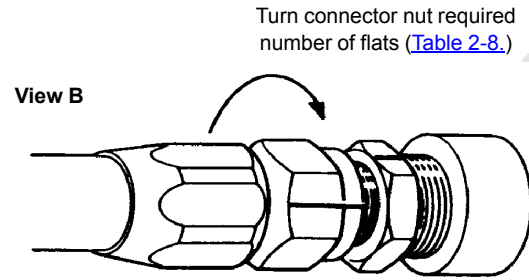

FIGURE 2-7
2. Mark a line (use felt pen or marker) on adapter and extend it onto connector nut (Figure 2-7, View A).
3. Using wrenches, tighten connector nut the number of flats shown in Table 2-8. (Figure 2-7, View B).